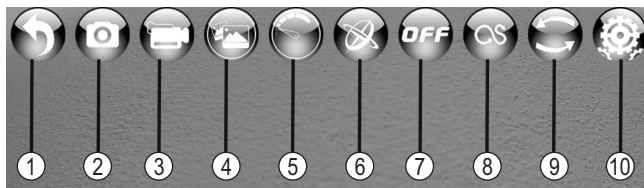

Figure 25
When you select the cog icon (see figure 25, position 10), the following additional icons are displayed:
To take a photo or record a video with the quadcopter camera, touch the corresponding icon on your smartphone display (see figure 25, positions 2 and 3).
A stopwatch is displayed during video recordings to indicate the recording duration. To end a recording, touch the icon in figure 25, position 3. The recording will stop, the stopwatch will disappear and the recording will be saved.
When you have finished flying the quadcopter, you can view images and videos on your smartphone. Touch the corresponding icon on the display (figure 25, position 4). A new screen will be displayed.
When you start the app, a number of icons are displayed with the camera image. In addition to the camera control icons (see figure 25, position 2 - 4), the remote control icons are displayed when you select the icon in figure 25, position 7.
- Select "Play". The in-app control icons will be displayed (see figure 25) together with the video image from the built-in camera.
- Select the icon in figure 25, position 7. The control icons (which correspond to the control levers on the remote control) will appear as "points". The trim controls will also be displayed.
By default (see icon in figure 25, position 5), the app is set to 30% of the maximum steering range. This corresponds to beginner mode (see section 11) and restricts the impact of steering commands.
An additional bar is displayed when you touch this icon again (figure 25, position 5). The steering range is now set to approximately 60 % of the maximum. This corresponds to advanced mode, which makes the quadcopter more agile.
A third bar is displayed when when you touch the icon again (figure 25, position 5). The steering range is now set to 100 % of the maximum. This corresponds to professional mode, which does not restrict the control functions. Touch the icon again to revert to the first level (30 %).
Touch the icon in figure 25 (position 8) to enable "flight route" mode. The left-hand control icon will continue to be displayed and can be used to control the altitude and yaw. The right-hand control icon is not available in this mode.
Bring the quadcopter into a stable position and enable flight route mode (touch icon in figure 25, position 8). Draw a route on the display. When you have finished drawing a route (lift your finger from the display), the quadcopter will immediately follow the designated route.
Touch the "REV" icon (figure 25, position 9) to invert the video image by 180° (the image will turn upside down).
Touch the cog icon (figure 25, position 10) to display additional control icons.
To control the quadcopter with your smartphone's position sensors, follow the instructions in section 20. a) to prepare the quadcopter for take-off, and then select the icon in position 6, figure 25 to activate position sensor control.